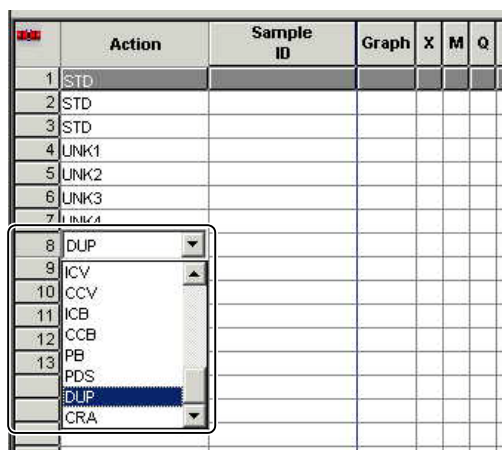

Fig. 6.12 Duplicate settings
- (1) For the duplication settings, tick the [Duplicate] check box in [Sample ID Collective Setup] dialog box shown in Fig. 6.12 and then enter a measurement interval (the default value is 20) in the right field, as in the case of Spike. This measurement interval must be smaller than the number of samples.
- (2) Click on the [OK] button to return to the [Sample Group Setup] page. Now Duplicate is automatically entered in the [Unknown/Spike Measurement Sequence] table of the current sample group number.